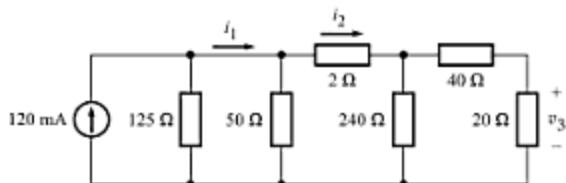

Fig. A-86
- A-48.** In the circuit of Fig. A-86, find i_1 , i_2 and v_3 using resistance combination method and current division. [Ans. 100 mA, 50 mA, 0.8 V]